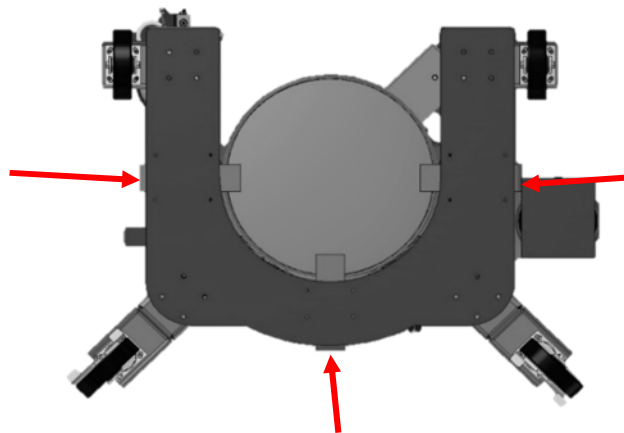

Figure 4. Drum Pedestals
7. Kick all three drum pedestals into place so they are beneath the drum, as shown in Figure 4.